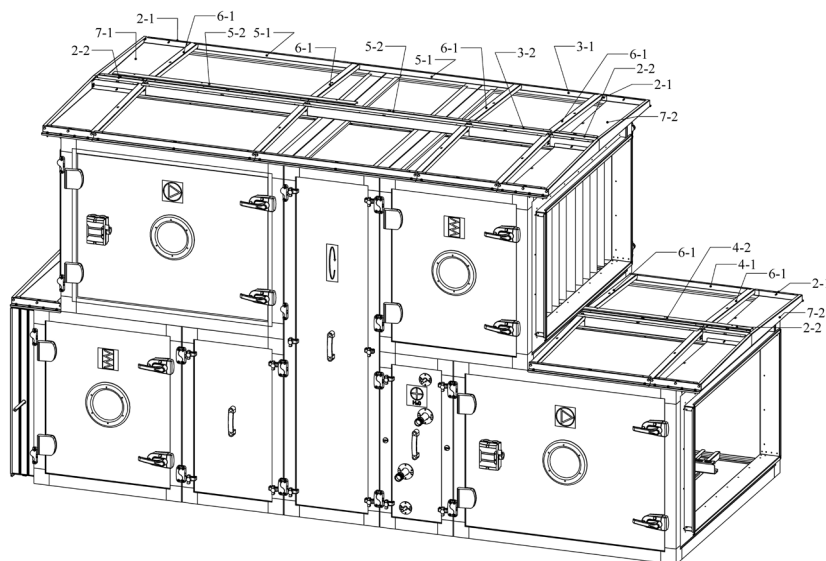

Figure 5.3
6. Assemble the opposite side of the frame in the same way as the first one. Complete frame assembly is shown in Figure 5.3.